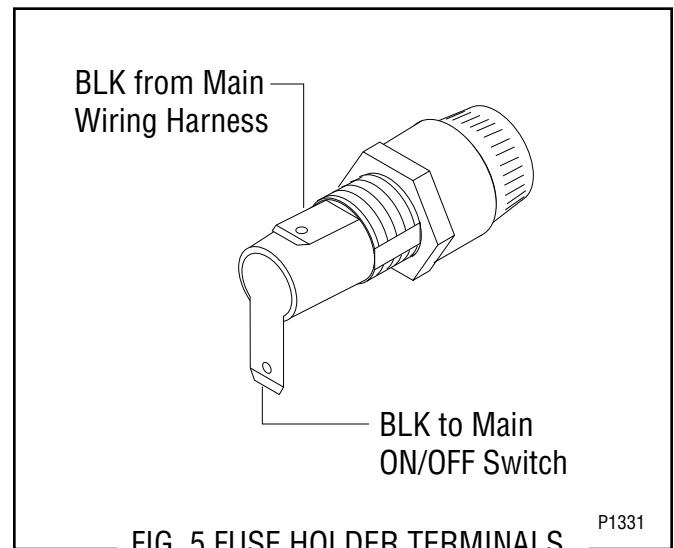

FIG. 5 FUSE HOLDER TERMINALS
7. Refer to Fig. 5 and reconnect the wires.